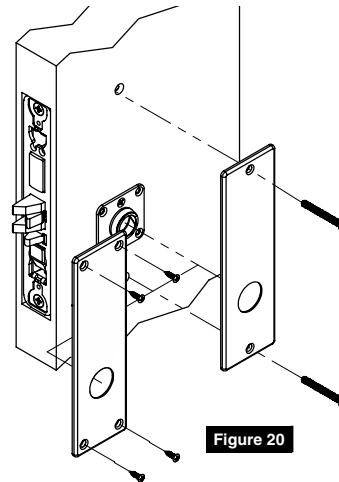

Figure 20
4. Mount escutcheon. (Figure 20)